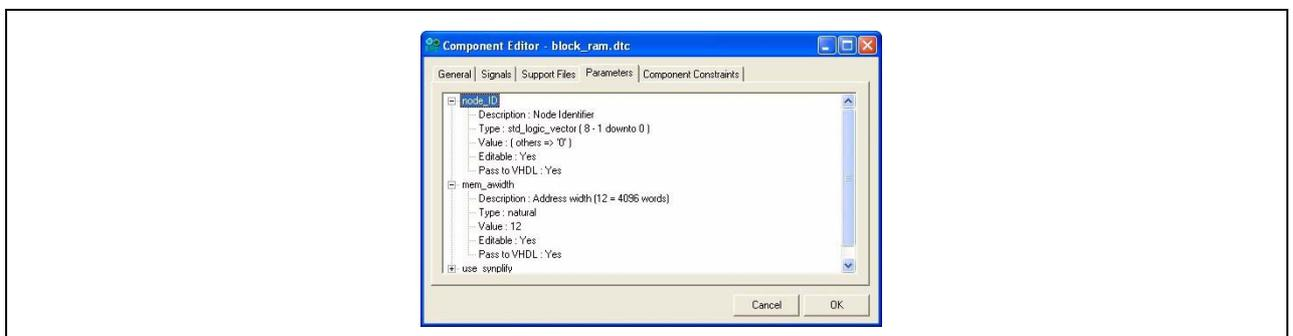

Figure 59: Parameters Tab in Component Editor
10. The Parameters tab, shown in **Figure 59**, displays parameters which can alter a component's behavior. Click on 'OK'.